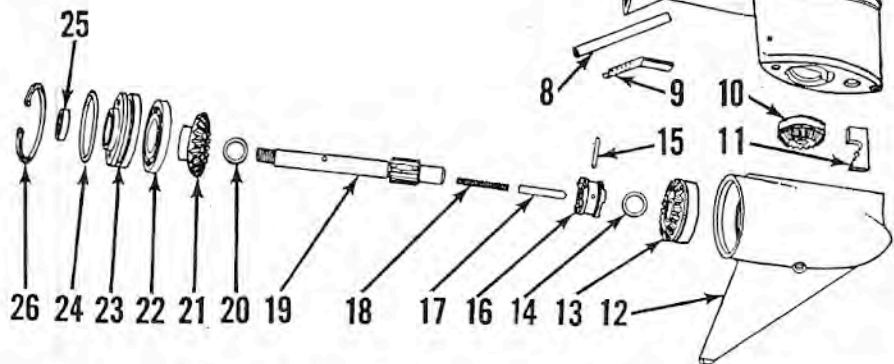
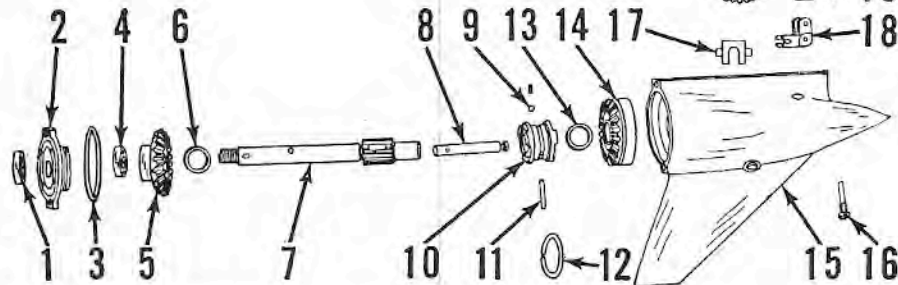

Fig. WB63—Exploded view of lower unit gearcase, drive shaft housing and associated parts used on early models.
Fig. WB64—Exploded view of lower unit gearcase, drive shaft housing and associated parts used on late models.
R&R AND OVERHAUL. To remove the lower unit gearcase and drive shaft housing from lower motor leg, loosen the locknut (B—Fig. WB69) on upper shift rod, and disconnect the coupling (C). Remove the screws retaining the driveshaft housing (upper gearcase) to motor leg and remove the complete lower unit drive assembly. Refer to Fig. WB63 or Fig. WB64. On early 35 and 40 horsepower models, remove interfering shift linkage. On 25, 30 and late 40 horsepower models, turn shift rod (1—Fig. WB63 or 34—Fig. WB64) to clear water pump housing. On all models, disassemble and remove water pump.
On early models, remove snap ring (26—Fig. WB63) and thread two screws into holes in bearing cage (23). Use a puller to remove the bearing cage. On late models, the bearing cage (2—Fig. WB64) is retained to gearcase by cap screws instead of snap ring.
remove the rear stud nut from INSIDE gearcase as shown by arrow, Fig. WB65, and the front stud nut from top of driveshaft housing. Remove shift rod (1—Fig. WB63) on early models or intermediate shift rod (34—Fig. WB64) and coupling (32) from late models, then separate the driveshaft and gearcase housings.
Early Models: Propeller shaft, gears, bearings and shift mechanism can be removed after housings are separated. An internal expanding puller and slide hammer may be required to remove the front gear (13—Fig. WB63). In some cases, gear may be removed by heating gearcase with a torch, then jarring open end on a block of wood to dislodge the gear and bearing assembly. When installing front gear and bearing assembly, assemble the bearing cage (23), without "O" ring (24) over rear of propeller shaft; install thrust washer (14) and gear assembly (13) on front of shaft; then use the propeller shaft as a piloted driver. Backlash and mesh position of the gears are not adjustable.
Late Models: To disassemble the removed gear housing assembly, first remove the rear gear (5—Fig. WB64) and thrust washer (6); then withdraw propeller shaft (7) with clutch assembly installed. Shift arm yoke (17) will be free when propeller shaft is removed. Remove drive pinion and bearing assembly (21) and front gear and bearing (14). Remove the shift pivot pin (16) from starboard side of gearcase, and withdraw shift rod assembly (27) with linkage (18, 19, 20 & 22) attached.
To reassemble the gearcase, install the shift rod (27—Fig. WB64) with coupling (20) and pivot (18) attached; then install pivot pin (16). Assemble forward gear thrust washer (13) and gear (14) on propeller shaft; then install shift arm yoke (17) in slot in front end of shift shaft (8). Carefully guide the propeller shaft assembly in gearcase, making sure the tabs on shift yoke (17) engage the fork slots in shift pivot (18).
On late 25, 40 and 45 horsepower models, assemble gearcase housing to drive shaft housing and install propeller shaft bearing cage (2—Fig. WB64) to complete the installation of the gearcase. Install the water pump assembly by reversing the disassembly procedure; then assemble the intermediate shift rod as follows: